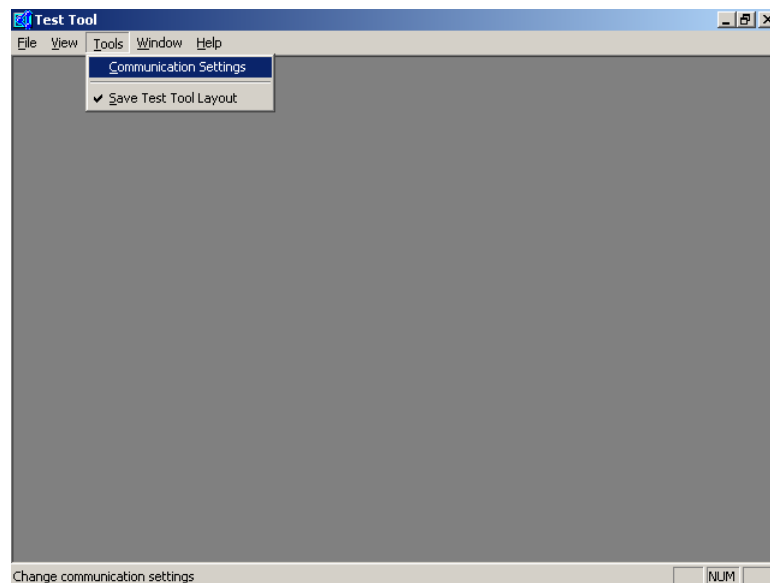

Figure 9 Test Tool Window (Configuration Settings Option)
5. Setup the board connection by selecting the “Communications Settings” option from the “Tools” menu as shown in Figure 9.